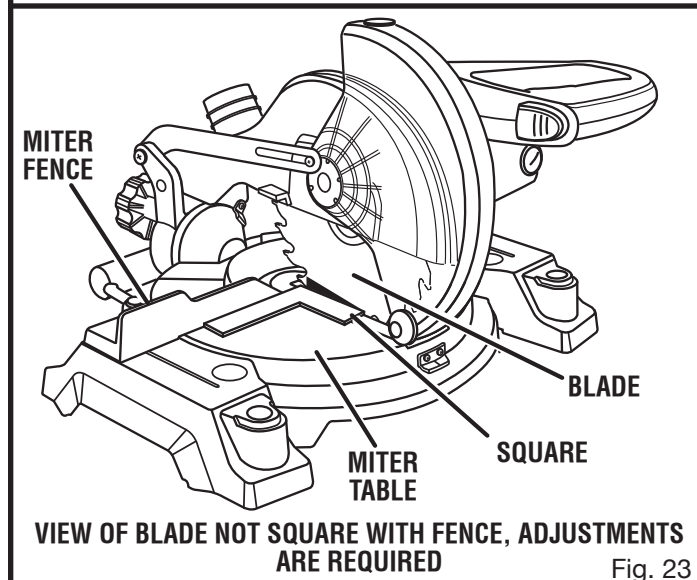

Fig. 23
- If the front or back edge of the saw blade angles away from the square as shown in figures 23 and 24, adjustments are needed.